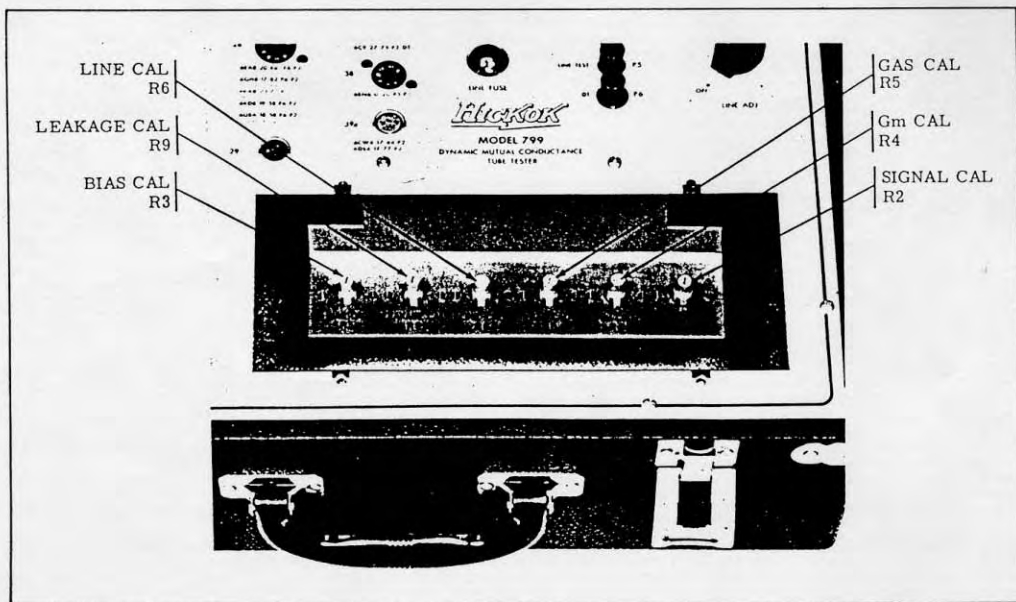

Figure 9. Calibration Controls
All calibration controls are located beneath the cover plate on the panel of the unit. It is only necessary to remove four screws. It is not necessary to remove the instrument from its case. See figure 9.
- a. Connect the AC VTVM between plate (P) and cathode (K) jacks on the front panel.
- f. Connect the DC VTVM between grid (G) and cathode (K) jacks on the panel. Plus (+) to cathode (K), minus (-) to grid (G).
- h. Adjust BIAS CAL R3 (figure 9) for a 50 volt reading on the DC VTVM.
- i. Adjust LINE CAL R6 (figure 9) for a half-scale reading (LINE TEST) mark on the meter of Model 799.
- e. Connect the DC microammeter between the grid (G) and cathode (K) jacks on the panel with the 1 meg,  $\pm 5\%$ , 1/2 watt resistor in series with the DC microammeter. Press and hold down push-button P1 and adjust BIAS control on front panel of Model 799 for a 10 microamperes reading on the DC microammeter.
- f. Adjust GAS CAL - R5 (figure 9) for a full scale reading on the Model 799 meter. If full scale reading cannot be obtained, set for highest possible reading. This highest possible reading (but under 1000 on the meter scale) is satisfactory. A slight variation at this point is not critical.
- b. Connect a jumper between the grid (G) and the cathode (K) jacks on the front panel.
- c. Adjust LEAKAGE CAL - R9 (figure 9) for a full scale reading on the Model 799 meter.
- c. Connect the AC VTVM between the grid (G) and the cathode (K) jacks on the front panel. Meter ground to cathode jack (K).
- d. Press and hold down push-button P1 and adjust SIG CAL - R2 (figure 9) for a reading of 2.5 volts (RMS) on the AC VTVM.
- b. Connect a 1K,  $\pm 5\%$ , 10 watt resistor between the plate (P) and the cathode (K) jacks on the front panel.
- c. Press and hold down push-button P2 and adjust Gm CAL - R4 (figure 9) for a 0 (zero) meter reading on the Model 799 meter.